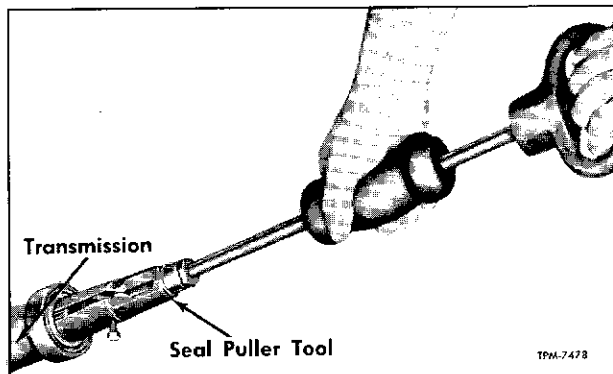

Figure 6—Removing Rear Oil Seal from Extension
14. To remove the extension rear oil seal (20) from extension (15), attach oil seal puller tool (J-5859) and remove seal (fig. 6).